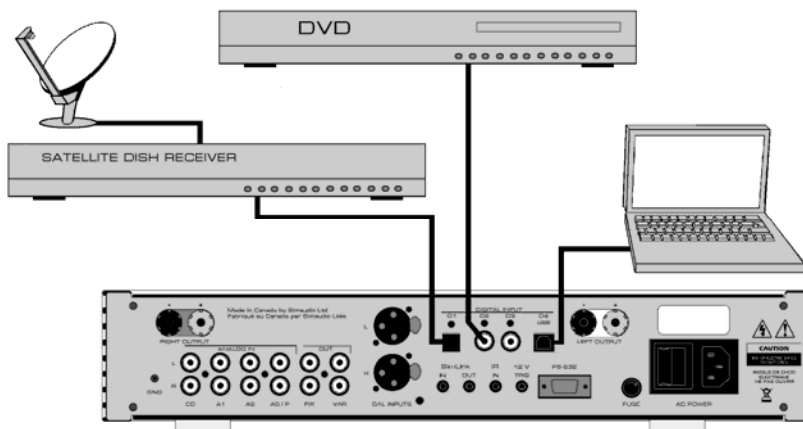

Figure 2: MOON 340i Optional Digital Inputs – connection examples
There are two (2) different settings available for setting the resistive load; 100 Ω and 47k Ω which are represented by jumper sockets R9 for the left channel and jumper socket R24 for the right channel (refer to figure 2 – section labeled "LOADING"). The factory default setting is 47k Ω , therefore both jumpers will be found in each of the two left most sockets.
There are two (2) different settings available for the capacitive load; 0pF and 100pF which are represented by jumper sockets C9 for the left channel and jumper sockets C17 for the right channel (refer to figure 2 – section labeled "LOADING"). The factory default setting is 100pF for a moving magnet cartridge, therefore both jumpers will be found in each of the two right most sockets.
There are two (2) different settings available for gain level. They are 40dB for MM cartridges and 60dB for MC cartridges, which are represented by jumper socket J17 for the left channel and jumper socket J22 for the right channel (refer to figure 2 – section labeled "GAIN"). The factory default setting is for a MM cartridge, therefore both jumpers will be found in each of the two right most sockets labeled MM; ***It is highly recommended that you do not use the jumpers labeled MC for an MM cartridge as this will overload the preamplifier.*** In the event that you're using a MC cartridge, you should insert the supplied jumpers into each of the two left-most sockets labeled MC.
The rear panel will look similar to Figure 2 (above). There are four (4) pairs of single-ended analog inputs on RCA connectors labeled CD, A1, A2 and A3/P. The left channel inputs are located on top and the corresponding right channel inputs are located directly below. In the event that your **MOON 340i** is equipped with the aforementioned optional phono section, the input labeled ‘A3/P’ must be used to connect your turntable interconnect leads to this integrated amplifier. If you don’t have the optional phono section installed, then this input can be used in the same way as CD, A1 and A2 inputs.